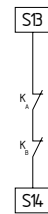

Fig. 4
**Automatic start (see Fig. 4)**
- If the feedback circuit is not required, establish a bridge (Fig. 4)